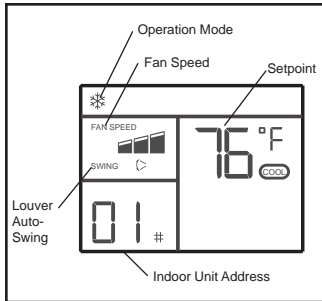

Figure 8. Indoor Unit Operation Status
- Indoor unit operation status (Figure 8)